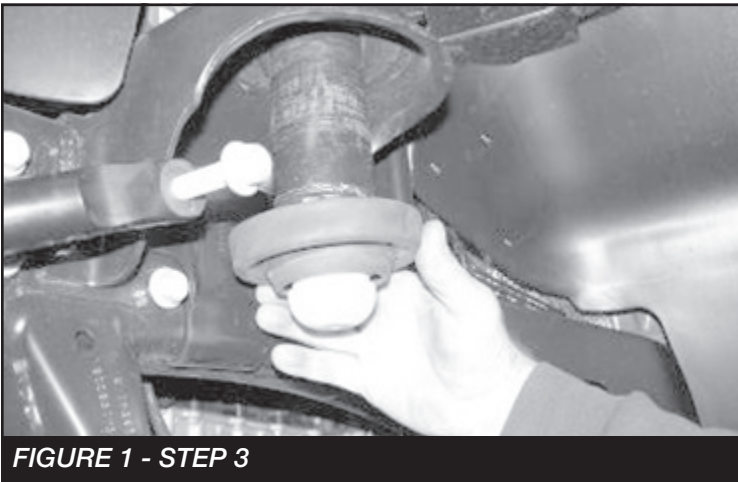

FIGURE 1 - STEP 3
3. Remove the front shock, save lower mount hardware, and discard upper. Remove the factory coil spring, and save, you will need to allow the front axle to hang freely to remove the coil spring. Remove the factory upper coil isolator, and save. **SEE FIGURE 1**